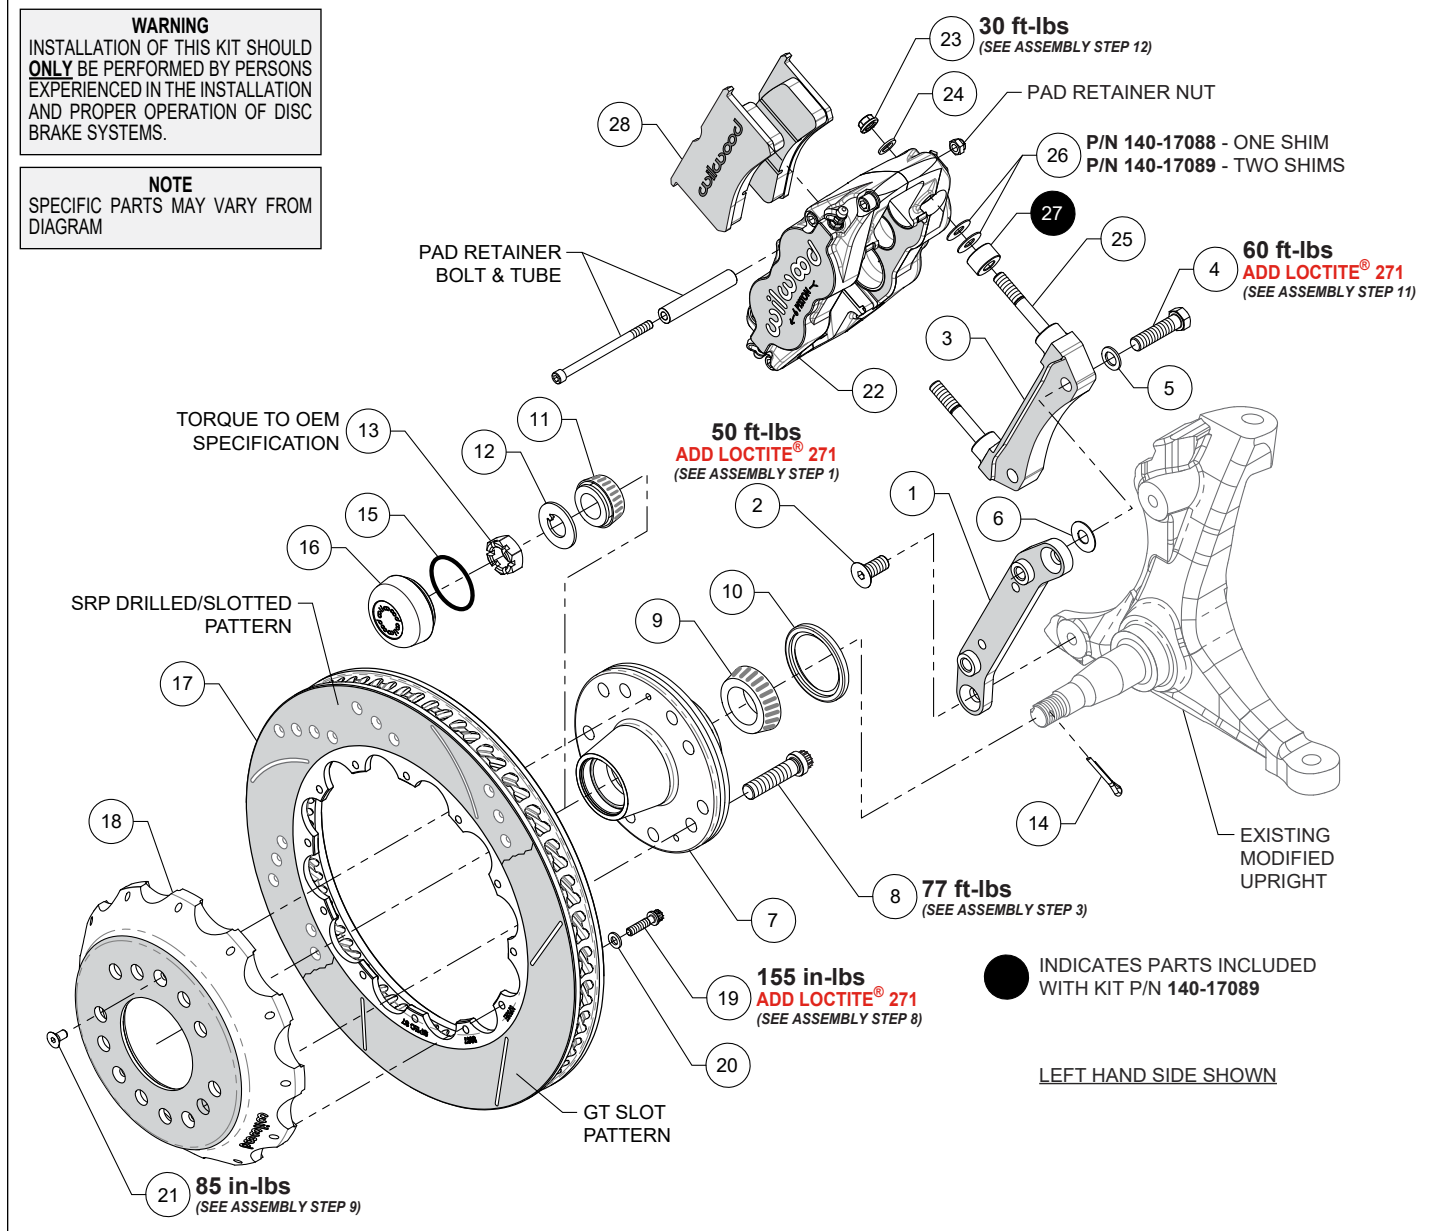

Figure 2. Typical Installation Configuration
**NOTE:** Numbers in parenthesis refer to the parts list and Figure 2 on the preceding pages.
**STEP 1** Orient the caliper mounting flat bracket (1) as shown in Figure 2 and install using bolts (2), Photo 1. **NOTE:** Be sure the heads of the flat mount bracket clinch nuts (1) are facing outward toward the wheel. Temporarily tighten the mounting bolts. **NOTE:** The bracket must fit squarely against the mount bosses on the upright. Inspect for interference from casting irregularities, machining ridges, burrs, etc. After the bracket fitment has been checked, remove the bracket mounting bolts (2) one at a time, apply red *Loctite*® 271 to the threads and torque to value shown in Figure 2.
**STEP 2** The radial mount caliper bracket (3) should initially be installed with clean, dry threads on the mounting bolts. Orient the bracket, as shown in Figure 2 and Photo 2, and install using bolts (4) and washers (5). Initially place one .030" thick shim (6) on each bolt between the radial mount caliper bracket (3) and caliper mounting flat bracket (1), Figure 2. Temporarily tighten the mounting bolts. Later,
**STEP 3** Install wheel studs (8) into the hub (7), Photo 3. Torque to value shown in Figure 2. **NOTE:** There are two five lug patterns in the hub (5 x 4.75 and 5 x 5.00). Ensure the correct hub stud pattern is being used to fit the wheel application.
**STEP 4** Pack the large inner bearing cone (9) with high-temp disc brake bearing grease (available from your local auto parts store) and install into the backside of the hub (7), Figure 2.
**STEP 5** Install the grease seal (10) by pressing into the backside of the hub (7), flush with the end of the hub, Photo 4.
**STEP 6** Pack the small outer bearing cone (11) with high temperature disc brake bearing grease and install into the front side of the hub (7). Slide the hub assembly onto the spindle. Secure using spindle washer (12) and spindle nut (13). Adjust bearings per OEM specifications. Install cotter pin (14).
**STEP 7** Screw dust cap (16) into hub (7), Photo 5. Friction created by the o-ring (15) on the dust cap keeps it from unscrewing. **NOTE:** The O.D. of the existing OEM spindle washer may be larger than the I.D. of the dust cap not allowing it to seat against the hub face. Therefore, use the spindle washer (12) supplied with the kit instead of the OEM washer.
**STEP 8** Orient the rotor (17) and the hat (18) as shown in Figure 2 and Photo 6. Attach rotor to hat using bolts (19) and washers (20). Apply red *Loctite*® 271 to the bolt threads and torque to value shown in Figure 2 using a criss-cross pattern. For an added measure of security, the bolts may be safety wired using standard 0.032 inch diameter stainless steel safety wire as shown in Figure 5. Refer to Wilwood's data sheet DS-386 (available at [www.wilwood.com/Pdf/DataSheets/ds386.pdf](http://www.wilwood.com/Pdf/DataSheets/ds386.pdf)) for complete safety wire installation instructions.
**STEP 9** Slide the rotor/hat assembly (17 and 18) onto the hub (7) taking care to align the small countersunk holes in the hat with the small threaded holes in the hub, Photo 7. **NOTE:** The hat must fit flush against the hub face or excessive rotor run out may result. Install three flat head hex drive screws (21) through the small holes in the hat, Photo 8, and torque to value shown in Figure 2.
- For kit p/n 140-17088: Initially place one .035" thick shim (26) on each stud between the caliper and the radial mount caliper bracket, as shown in Figure 2 and Photo 9.
- For kit p/n 140-17089: Initially place spacer (27) and two .035" thick shims (26) on each stud between the caliper and the radial mount caliper bracket, as shown in Figure 2 and Photo 10.
**STEP 11** **NOTE:** This kit contains distinct right and left hand calipers that must be mounted in a specific direction, as described in below. Mount the caliper (22) onto the radial mount caliper bracket (3) using lock nuts (23) and washers (24), Figure 2. Ensure that the caliper is mounted so the largest pistons are at the rotor exit end of the caliper, in relation to the forward direction of rotor rotation. Temporarily tighten the lock nuts and view the rotor through the top opening of the caliper. The rotor should be centered in the caliper, Photo 11. If not, adjust by adding or
subtracting .030" shims (6) as necessary between the radial mount caliper bracket (3) and the caliper mounting flat bracket (1). Always use the same amount of shims on each of the two mounting bolts (4). Once the caliper alignment is correct, remove the radial mount caliper bracket bolts (4) one at a time, apply red *Loctite*® 271 to the threads, and torque to value shown in Figure 2.
**STEP 12** Remove the caliper pad retainer bolt, nut, and tube from the caliper, Figure 2. Insert the brake pads (28) into the caliper, with the friction material facing the rotor, as shown in Photo 12. Check that the top of the brake pad is flush with the outside diameter of the rotor, Photo 13. If not, adjust by adding or subtracting shims (26) between the caliper and the bracket. After the caliper pad height is set, torque the caliper lock nuts (23) to value shown in Figure 2. Secure the brake pads in place with the pad retainer tube, bolt, and locknut. The locknut should be snug without play in the bolt or tube. Be cautious not to over tighten.